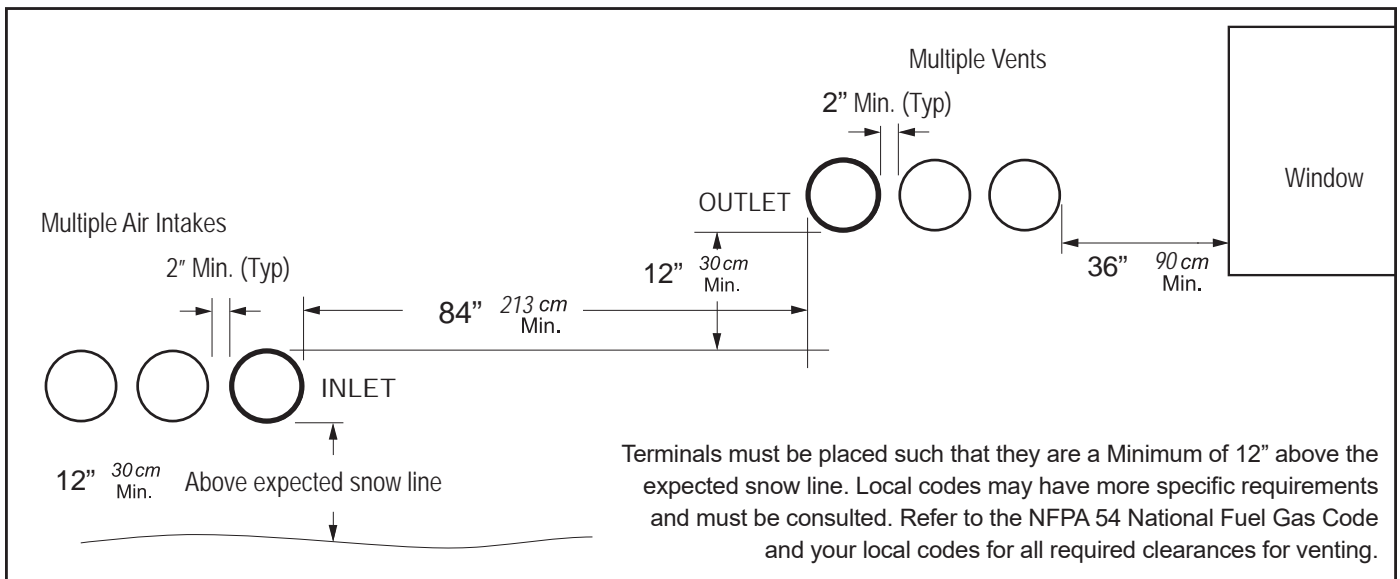

Figure 6. Sidewall Vent and Air Terminals
1. Figure 6 on page 24 shows the requirements for mechanical vent terminal clearances for the U.S. and Canada.
7. If the boiler or water heater uses ducted combustion air from an intake terminal located on the same wall, see Figure 6 on page 24 for proper spacing and orientation.
4. If the unit is side-wall vented to the same wall, use Figure 6 to determine the proper mounting locations.
5. Multiple vent kits should be installed such that the horizontal distance between outlet group and inlet group is 84" (213 cm) (See Figure 6).
6. The vent outlet must be at least 12" above the top of the air inlet, and must be at least 84" (213 cm) horizontally from the air inlet (See Figure 6).